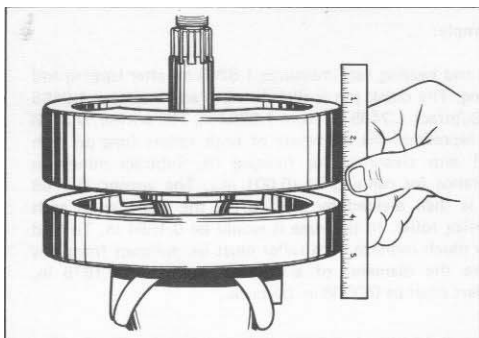

Figure 3-38. Squaring Flywheel Faces
2. Position right flywheel assembly in vise, crank pin up. Wipe crank pin taper clean. Slip bearings and connecting rods over crank pin with forked rod to rear cylinder. Wipe crank pin hole in left flywheel clean and dry. Install left flywheel and tighten nut lightly. Hold steel straightedge along outer face of wheel rims at 90 degrees from crank pin as shown in figure 3-38. Tap outer rim of top wheel until wheels are concentric. Tighten nut, recheck with straightedge at frequent intervals. Use soft metal hammer to realign wheels. To prevent flywheel assembly from turning in vise while tightening nut, insert a rod 5 in. long and about 1/2 in. in diameter through holes in flywheels and between vise jaws so that rod bears against some part of the vise.